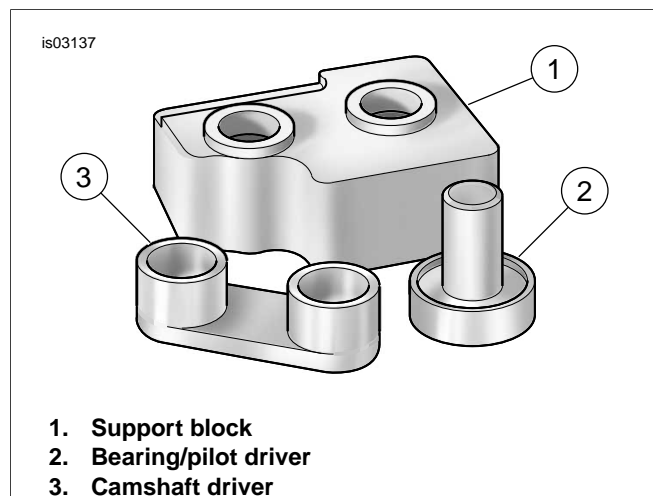

Figure 4. Camshaft Remover/Installer
- a. See Figure 4. Obtain the Camshaft Remover/Installer (HD-43644).